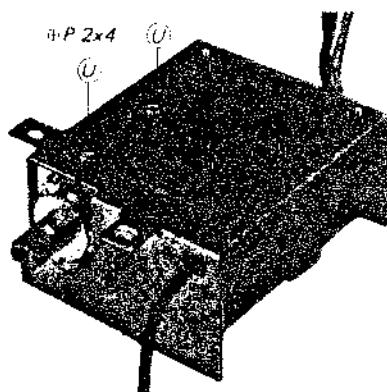

Fig. 2-18
4. Remove the two screws ($\Phi P 2 \times 4$) marked (U) in Fig. 2-18.